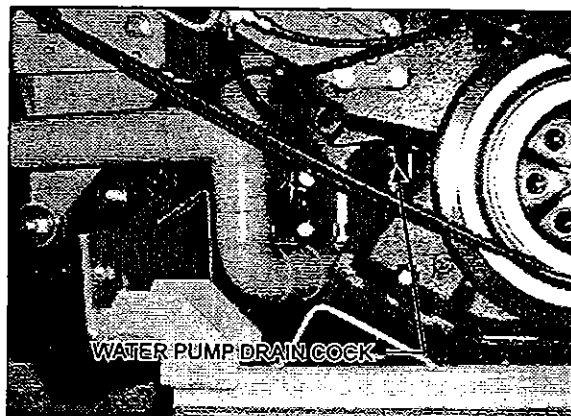

Figure 10: Water Pump Drain Cock 05030
6. Open the water pump drain cock (Fig. 10, if applicable).